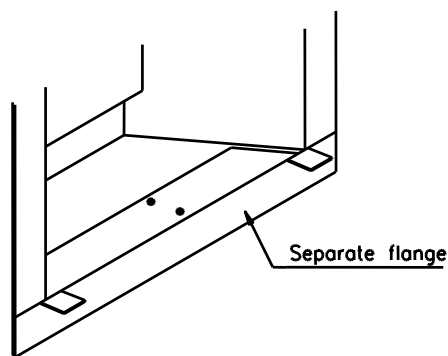

Fig.3 Securing bottom flange (Models S135H & S136H)
2. **For Models S135H or S136H only**, take the separate bottom flange supplied and secure it to the base of the convection box using the screws supplied. (See Fig. 3)